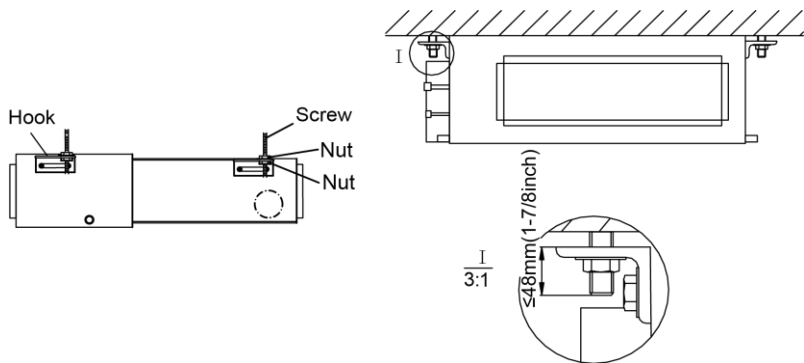

Fig.4.5
- (4). Pass the unit hangers over the bolts installed to the ceiling and install the unit with the special nut (Fig. 4.5).